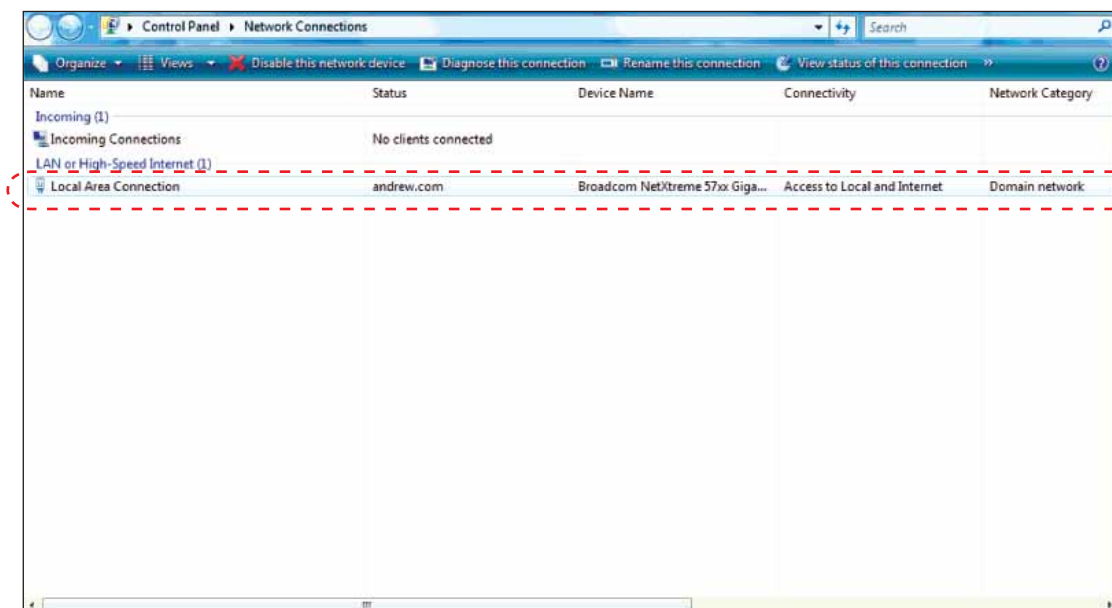

Figure 15-4. Selecting *Local Area Connection*.
- Click on **Local Area Connection** (Figure 15-4). This may appear differently on your computer. Ensure that you are using the connection that represents your RJ45 port on the back of your computer.